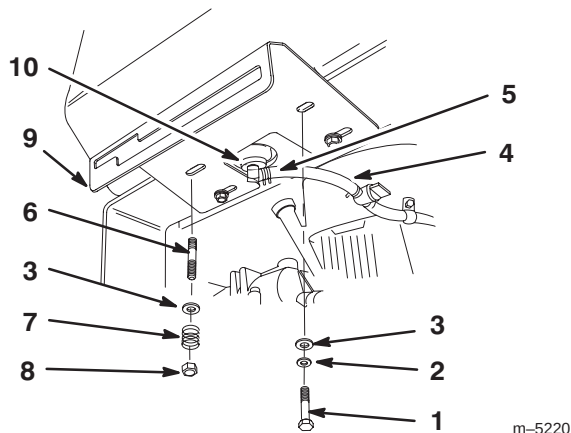

Figure 3
4. Secure the right side control panel and fuel tank to the rear frame with 2 bolts (5/16 x 7/8 in. (22 mm)), lock washers (5/16 in.) and washers (5/16 in.) (Fig. 3).
5. Secure the left side control panel and fuel tank to the rear frame with 2 studs, washers (5/16 in.), springs and locknuts (5/16 in.) (Fig. 3).
6. Slide the hose clamp onto the fuel line (Fig. 3).
7. Push the fuel line onto the fuel tank connection and secure it with a hose clamp (Fig. 3).